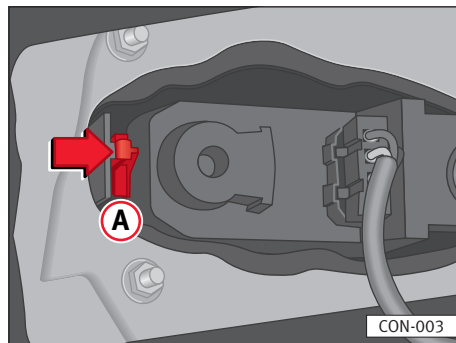

Fig. 159
- Press the tongue ⇒ **fig. 159 (A)** to free the lamp tray and remove it.